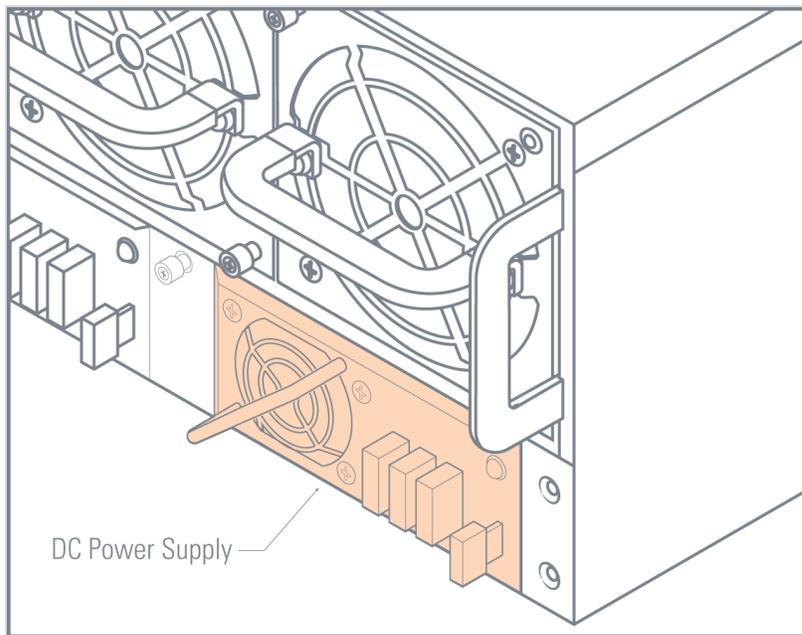

Figure 4: DC Power Supply Module
**NOTE:** For information on the optional DC power supply modules, refer to Figure 4: DC Power Supply Module on page 75.
The GigaVUE-HC3 is available with DC power supply modules. This section provides instructions for connecting a -48V DC power source to the DC PSMs. Figure 4: DC Power Supply Module shows a DC power supply module.